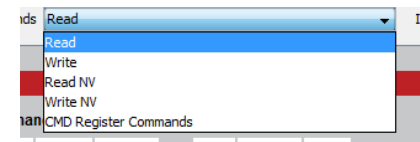

Figure 25: The Master Development System Software Command Set Tab Commands Menu
3. The Commands drop-down menu shows all of the commands that are available for the active module (Figure 25). Selecting one of the commands from this menu automatically fills in the Command box. The values can be adjusted by typing in the box.